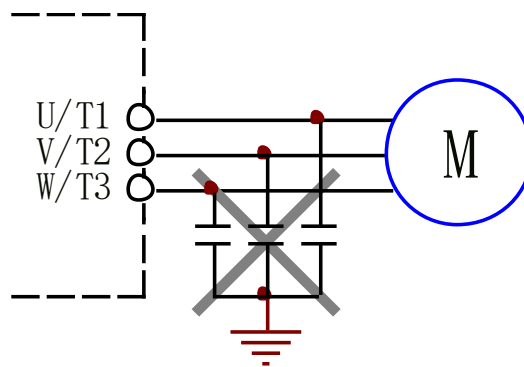

Figure 4-13: The capacitor is strictly prohibited to be connected on the output side
- The diagram of forbidding the capacitor to be connected to the output side of the inverter is shown in Figure 4-13.